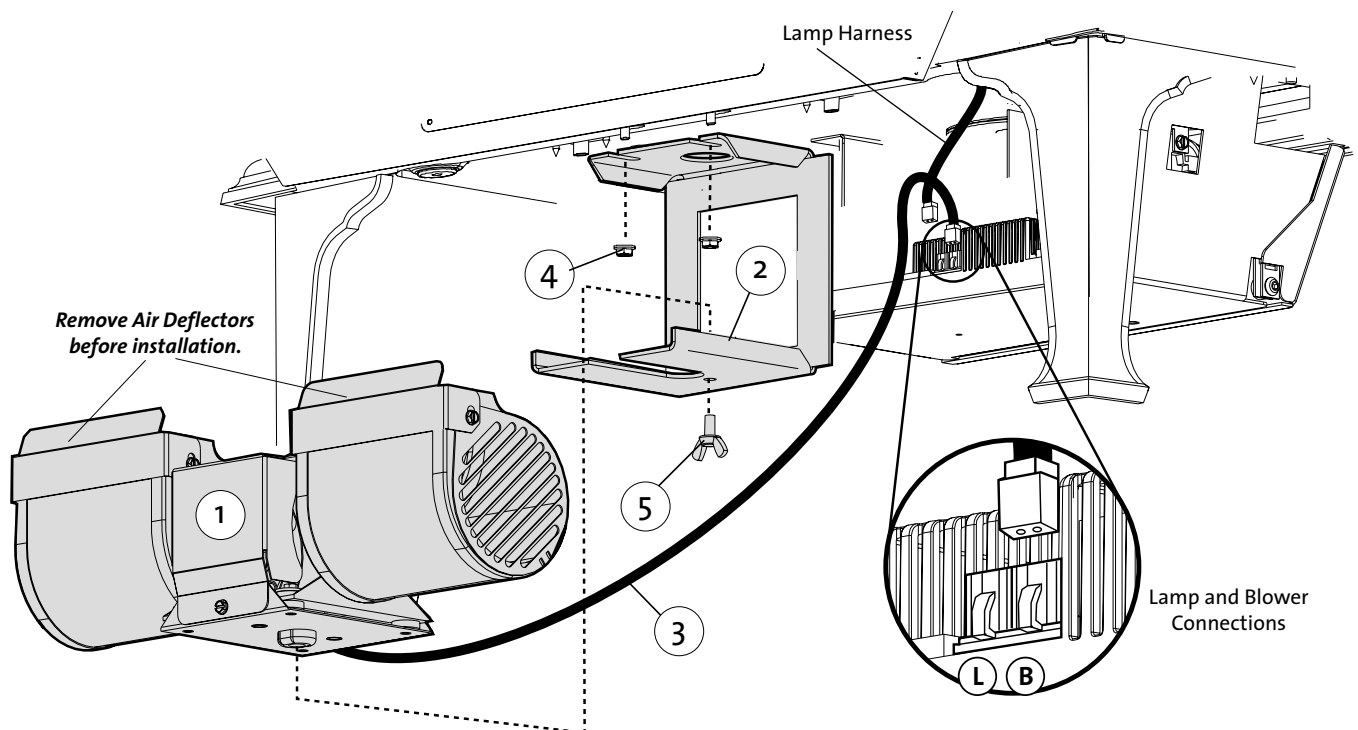

Figure 12.4. Blower Kit Components and Accent Lamp Connection to IFC board.
2. Orient the Blower Bracket (fig. 12.4 #2) as shown and securely attach it to the stove using the two pre-installed flange nuts already on the studs on the stove bottom. (#4).
4. Connect the Blower wire harness to terminal (B) on the IFC board as shown in fig. 12.4. Use the wire tie provided to take up any extra slack in the harness.